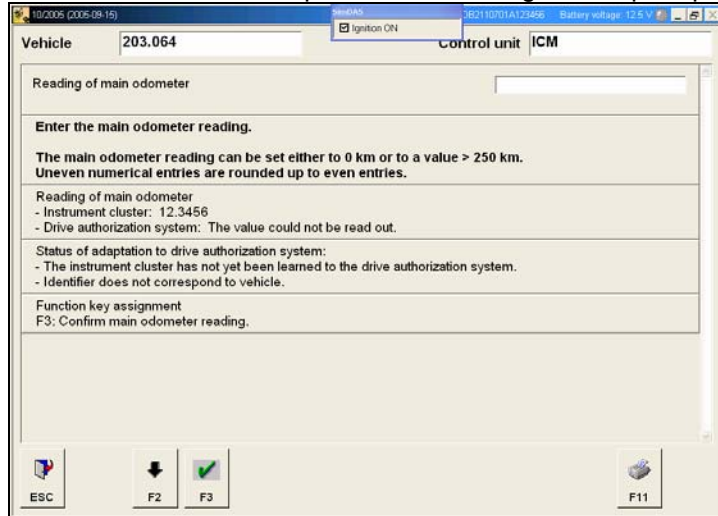

Figure 1 P-B-54.30/150
4. When the following screen appears (Figure 1), enter “Reading of main odometer” according to units appearing on the screen.